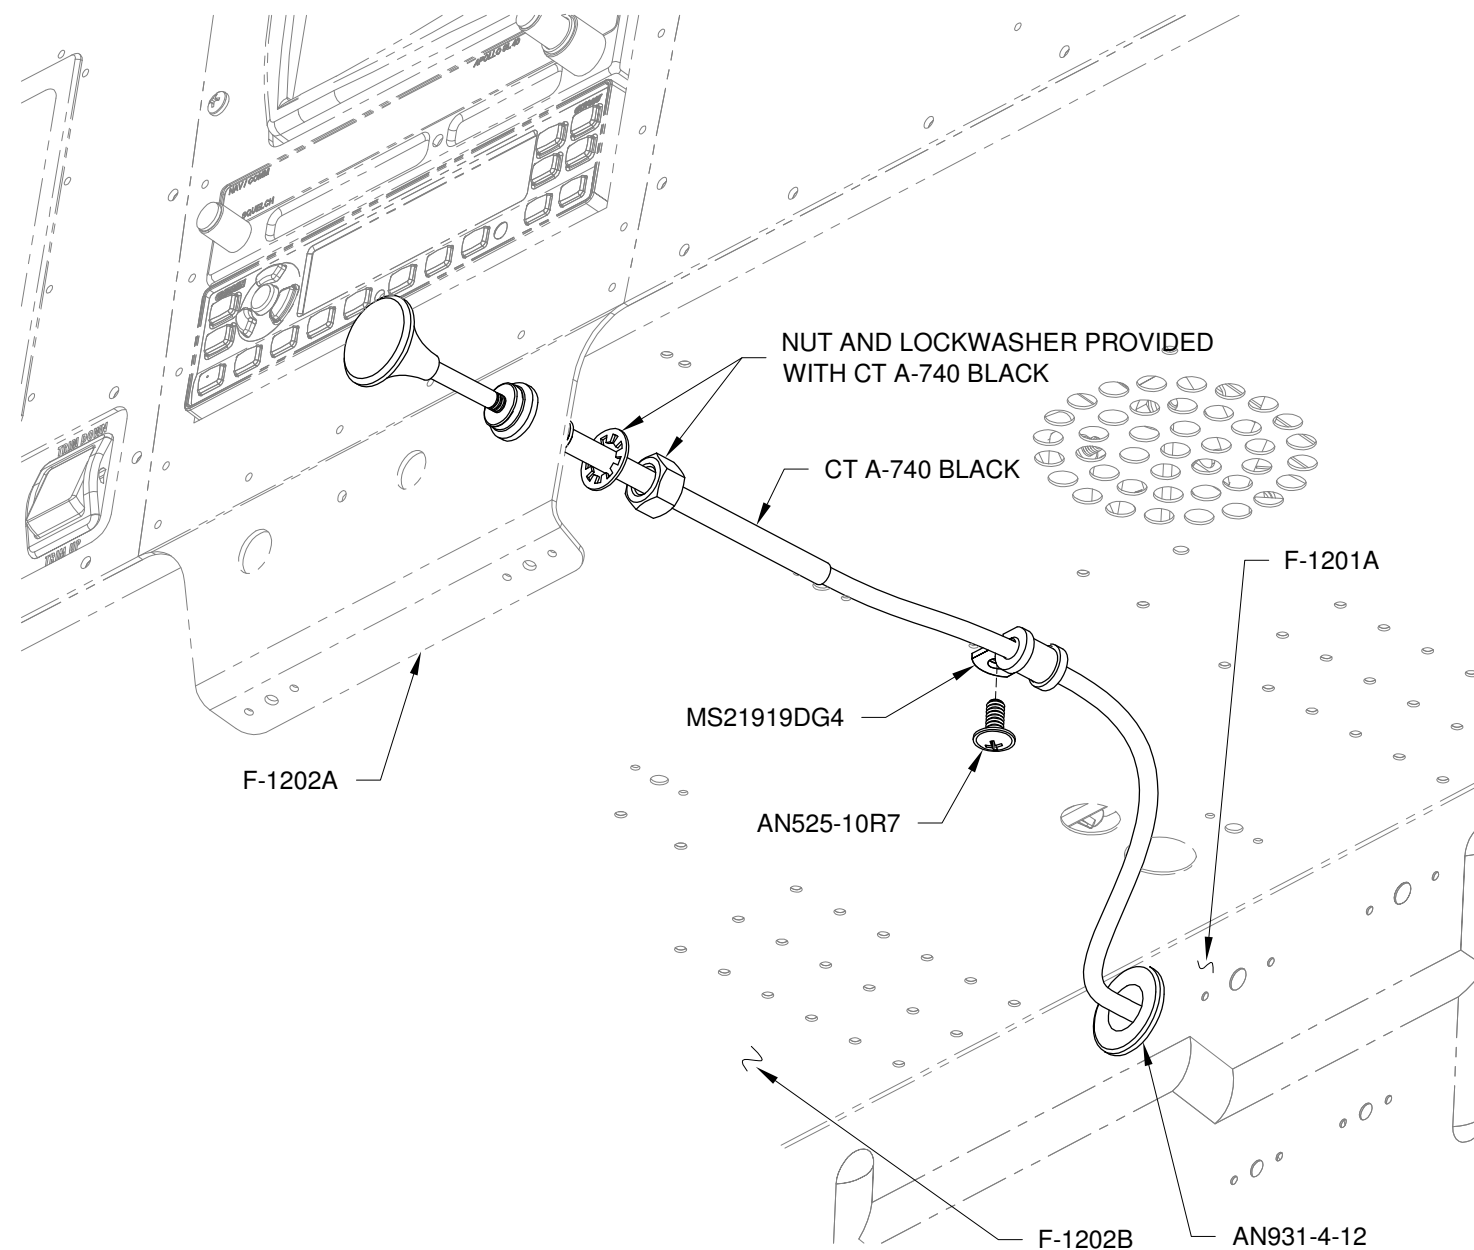

FIGURE 2: OVERFLOW BOTTLE HOSE ROUTING
Step 2: Route the F-1220 Overflow Bottle Hose using tie-wraps as shown in Figure 2.